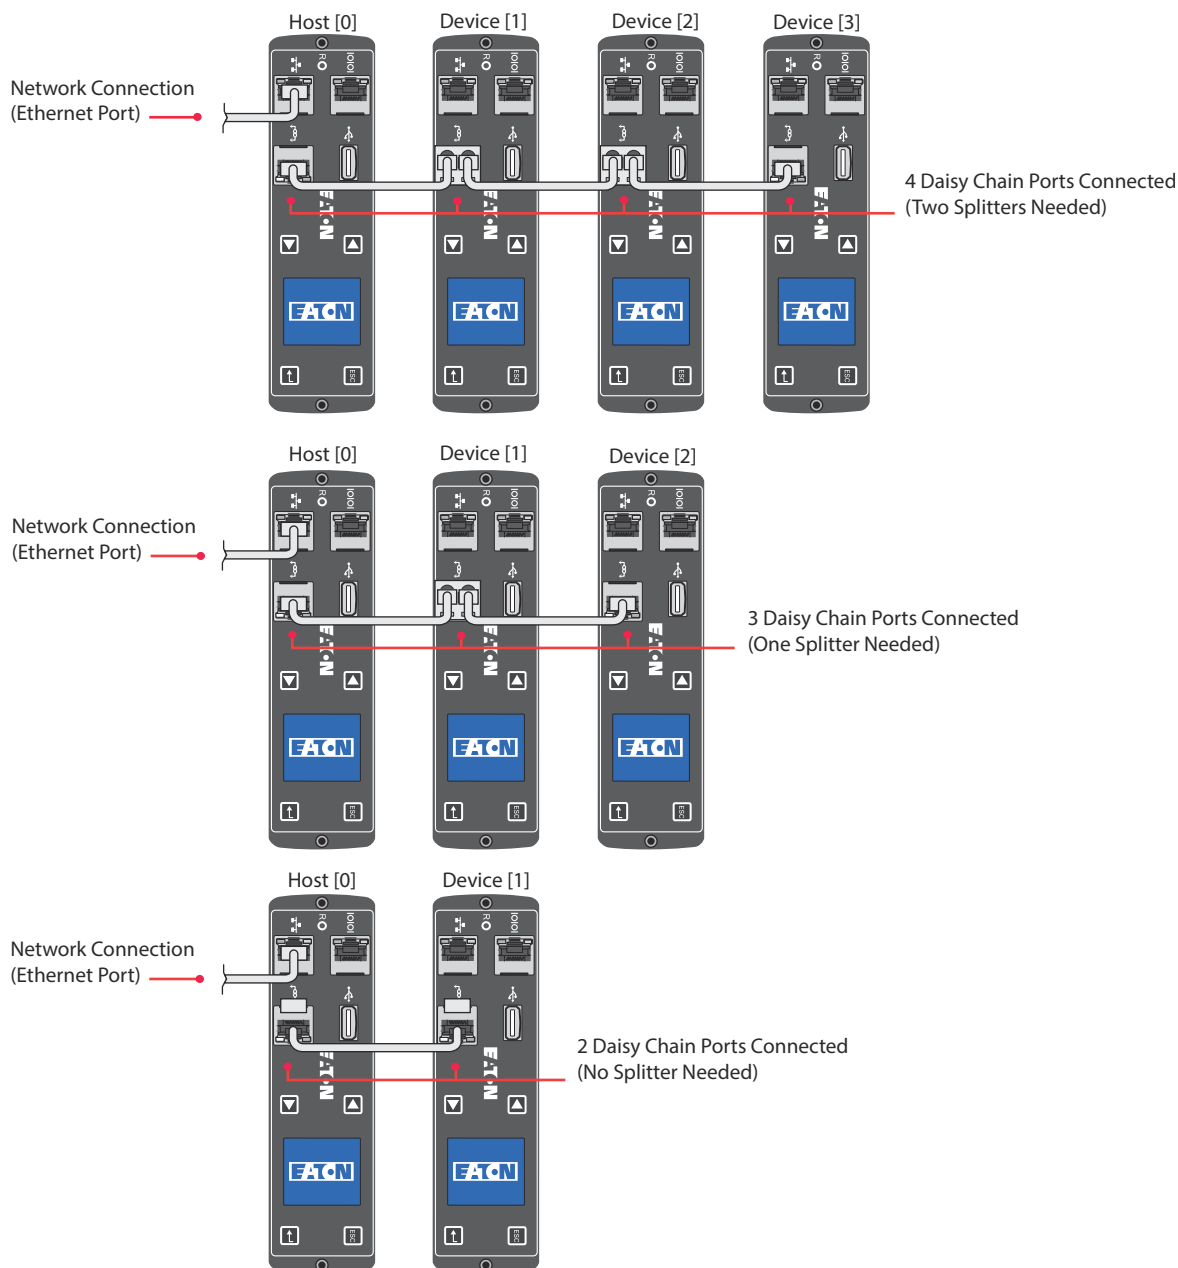

Figure 25. Locating the Daisy Chain Connector
3. Insert the Y splitter in the Daisy Chain connector of the middle ePDU or ePDUs as shown in Figure 25.
4. Connect one end of the cable to the Daisy Chain connector on one ePDU. Connect the other end of the cable to the Daisy Chain connector on the other ePDU or ePDUs as shown in Figure 25.